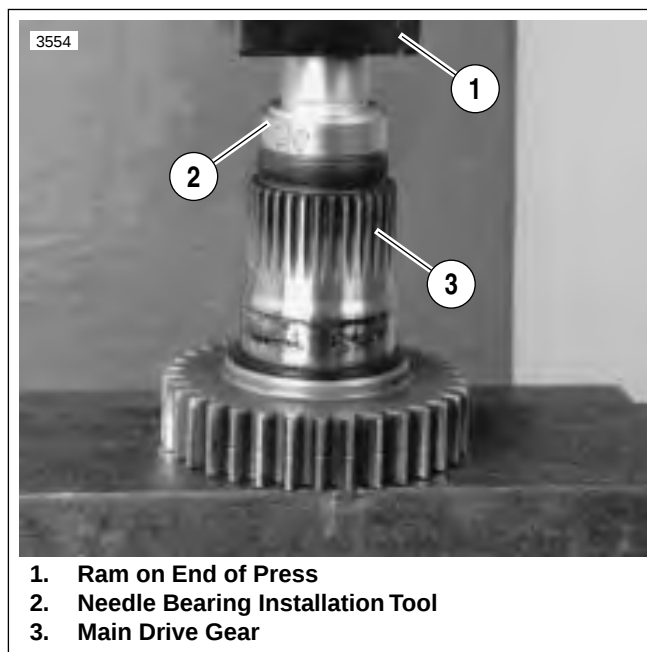

Figure 6-52. Needle Bearing Installation Tool
1. See Figure 6-52. Use INNER/OUTER MAIN DRIVE GEAR NEEDLE BEARING INSTALLATION TOOL (Part No. HD-37842A) for assembly. Select which end of tool to use.